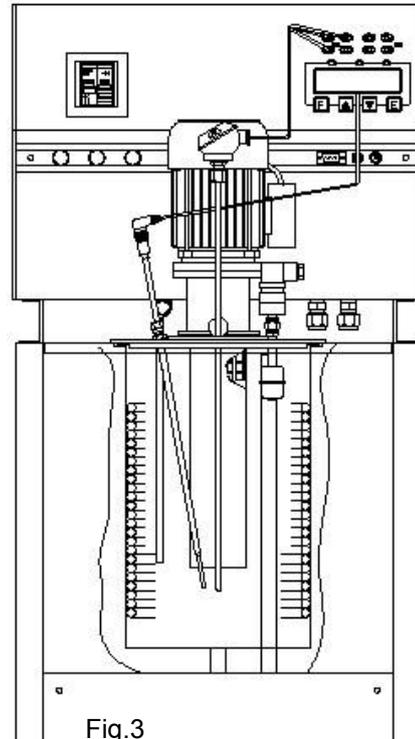

Fig.3
**Calibration with the internal indicator (6):**
Make reference to the temperature value of the display (6) (figure 3).